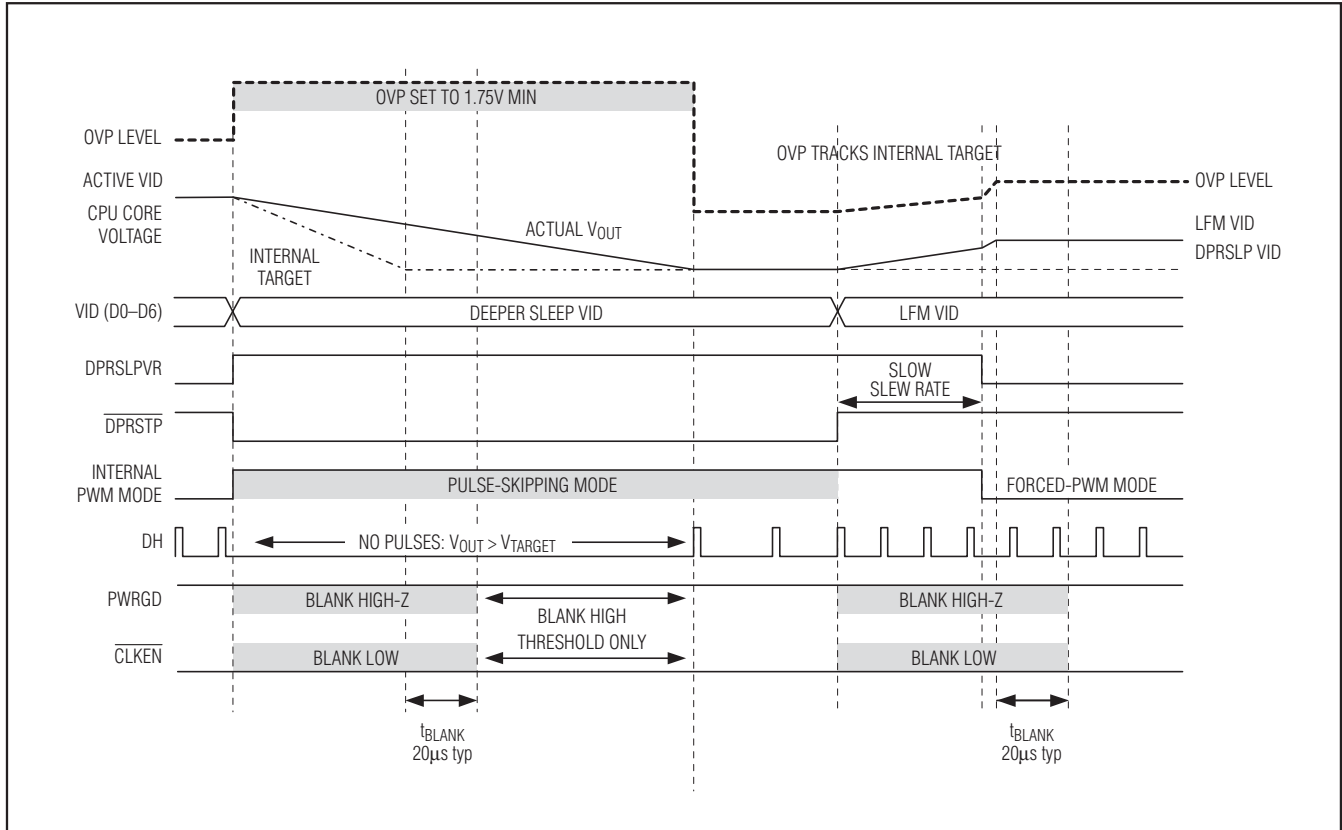

Figure 7. IMVP-6 Slow C4 Transition
- Slow C4 deeper sleep exit:** When exiting deeper sleep (DPRSLPVR stays high, $\overline{\text{DPRSTP}}$ pulled high) while the output voltage is regulating to the deeper sleep voltage, the MAX8796/MAX17401 remain in skip mode and ramp the output voltage to the LFM DAC code provided by the processor at 1/4 the slew rate set by R_{TIME}. The controller blanks PWRGD and $\overline{\text{CLKEN}}$ (forced high impedance) until 20 μs after the transition is completed. See Figure 7.